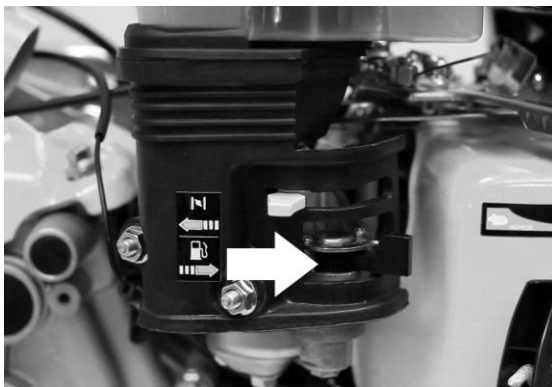

Fig. 5
- in the direction shown in Fig. 5;